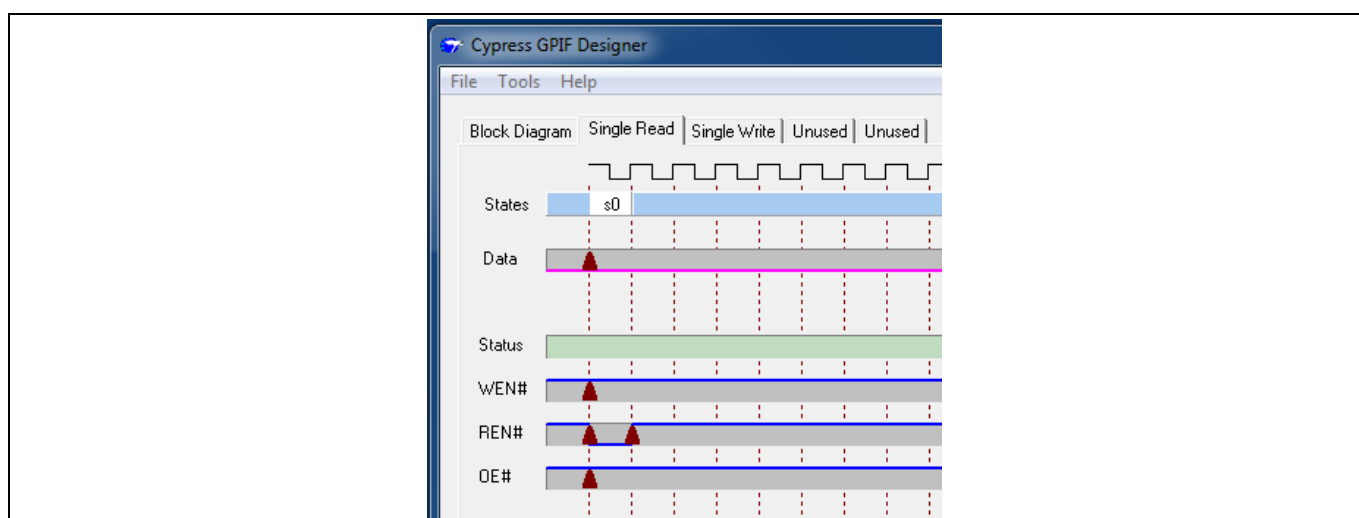

Figure 47 REN# Asserts for One Clock
2. Right-click on the first clock in the REN# trace and select **Low(0)**. Click on the REN# trace one clock cycle from the left boundary. This places an action point and creates the REN# pulse. State 0 (s0) is generated automatically and lasts for one IFCLK cycle (20.83ns). Thus, REN# is asserted for 20.83ns (**Figure 47**).